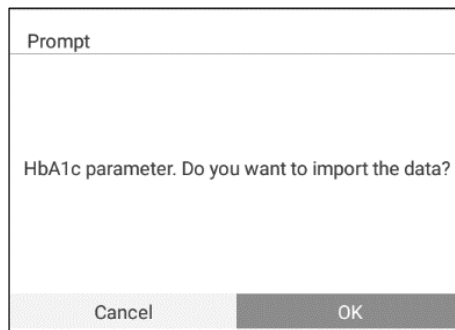

Fig. 5-13 SD Calibration
- a) Place the SD card on the SD card recognition zone. A prompt will be displayed on the screen (Fig. 5-13).